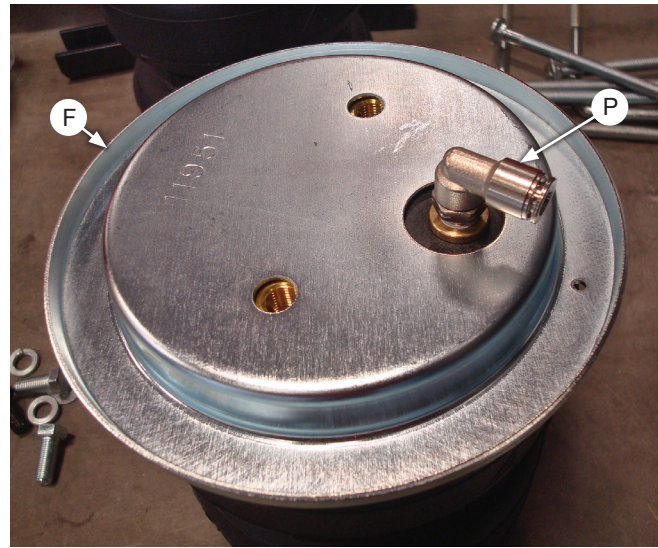

Fig. 7
1. Set a roll plate (F) on top of the air spring (E1 or E2). The radiused or rounded edge of the roll plate will be toward the air spring so that it is seated inside the roll plate (Fig. 7). Install the 90-degree swivel elbow fitting (P) into the top of the air spring, finger-tight plus 1 1/2 turns.